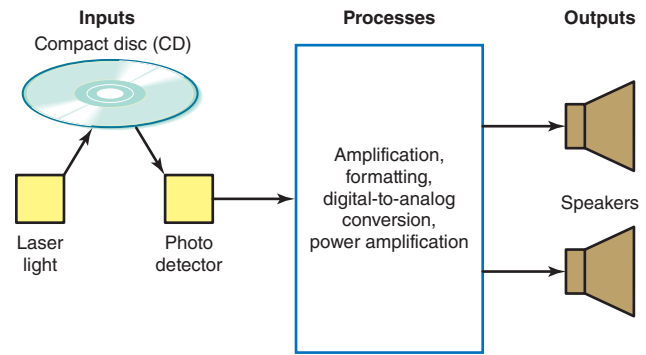

Figure 1-7 A compact disc (CD) player.
Another example is shown in Fig. 1-7. A compact disc (CD) player gets its inputs from a compact disc which has embedded music or other sounds. A laser light is shined on the bottom of the spinning CD, and reflections from the embedded music produce digital or pulse signals in the photo detector. These signals are then amplified, converted, and translated into the audio signals that drive the speakers or headphones. A DVD player works the same way, although the information on the DVD disc includes video and audio. The outputs are audio to speakers and video to a liquid-crystal display (LCD) or other TV screen.